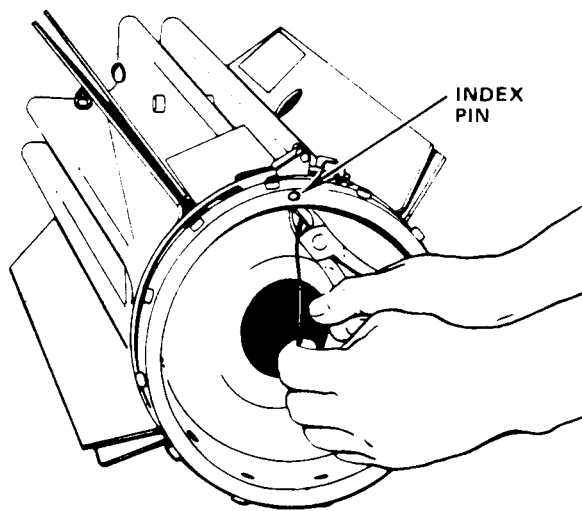

Figure 3-11. Internal Arming Wire Cut Flush with Flange
2. If fin contains an internal arming wire (figure 3-11), pull wire taut and cut off wire flush with flange. This wire is no longer used.
3. If fin contains an internal arming wire (figure 3-11), pull wire taut and cut off wire flush with flange. This wire is no longer used.